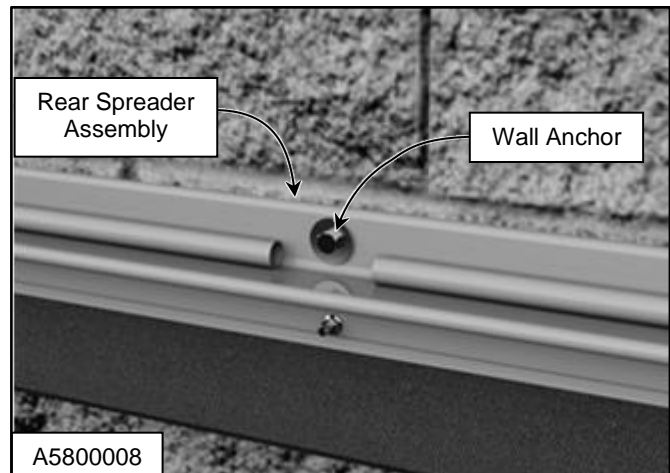

Figure 15
8. Install anchor into rear spreader assembly. (See Figure 15)